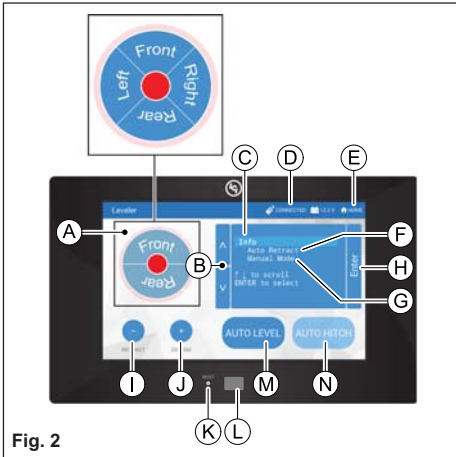

Fig. 2
To reach Standard Mode (Fig. 2) for levelling:
3. The screen will show the system menu (Fig. 2) for Standard Mode. Front and rear jacks cannot be operated in standard mode.
1. While in Standard Model (Fig. 2), use the arrows (Fig. 2B) to scroll to Manual Mode (Fig. 2G). Hit "ENTER" (Fig. 2H).